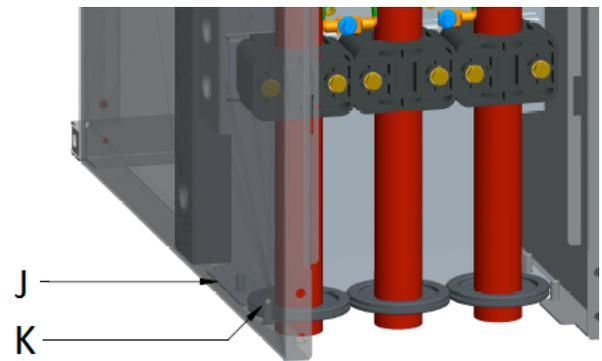

Figure 27: Positioning of the rear bottom panels
- Place the bottom plate (Figure 27 J) right in the cable compartment and position the cable grommets (Figure 27 K) in such a way that the bottom panels are fixed into place.